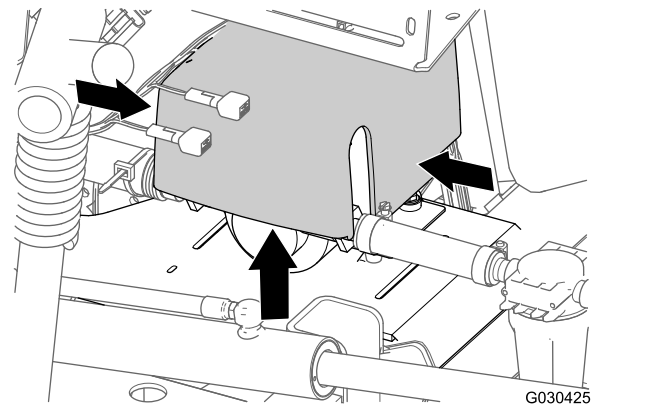

Figure 5
1. At the back of the machine, press together the sides of the rinse-pump cover and lift the cover up until the tabs of the cover clear the slots in the saddle plate, and remove the cover from the machine (Figure 5).